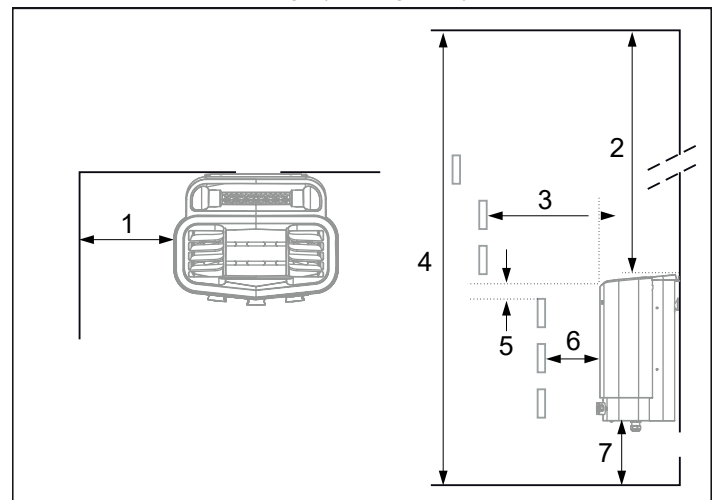

Figure 2: Heater positioning - normal installation
- Position the heater at a safe distance from the floor, side walls and interior fittings (see Figure 2).